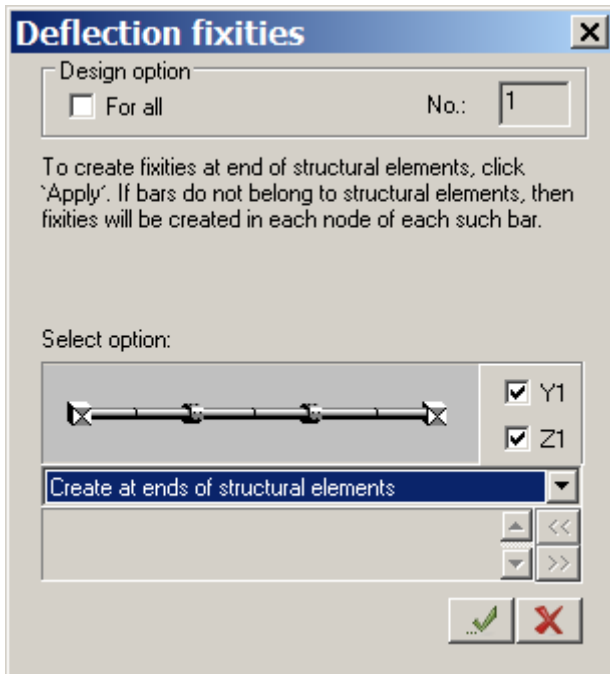

Figure 12.28 **Deflection fixities** dialog box
- ⇒ In the **Deflection fixities** dialog box (see Fig.12.28), select **Create at ends of structural elements** option in the list.